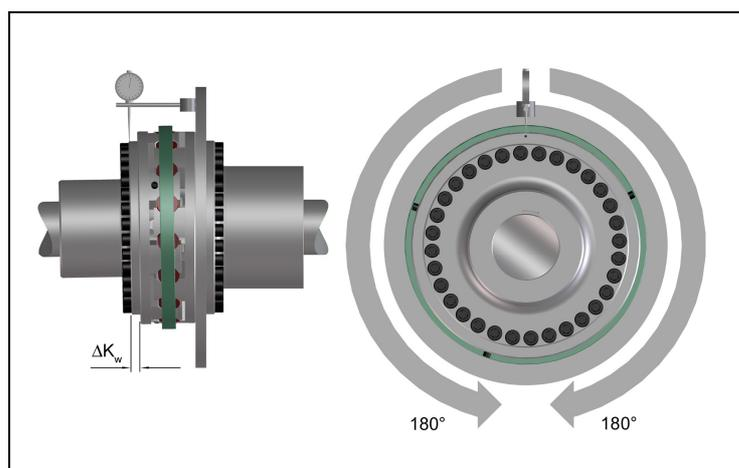

Fig. 6
- Measure one complete rotation (360°) on the face of the outer diameter. Determine the largest deviation K_{w1} and the smallest deviation K_{w2} (Fig 6).